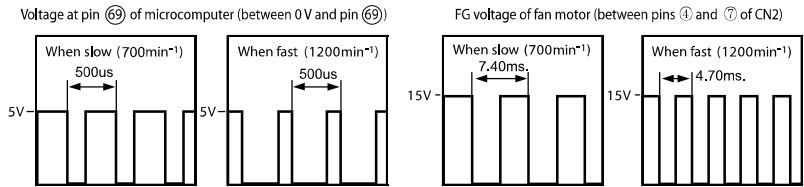

Fig. 3-2
- Low voltage at pin ⑬ resets the microcomputer and Hi activates the microcomputer.
- Waveform of each part when switching ON the power and when shutting down is shown in the Fig. 3-2.
- After switching ON the power, ① pin of IC501 supply voltage and ⑬ pin of microcomputer becomes Hi when DC5V line rises and reaches approximately 4.4V or higher. Then, resetting will be cancelled and microcomputer starts operating.
- After shutting down the power, ① pin of IC501 supply voltage and ⑬ pin of microcomputer becomes Lo when DC5V line falls and reaches approximately 4.2V or lower. Then, the microcomputer will be in reset condition.
- The VS receives a command voltage from the microcomputer. The VS terminal undergoes an analog voltage that matches the Lo level time ratio of the pulse signal from pin 69 of the microcomputer. (See Fig. 3-2.)